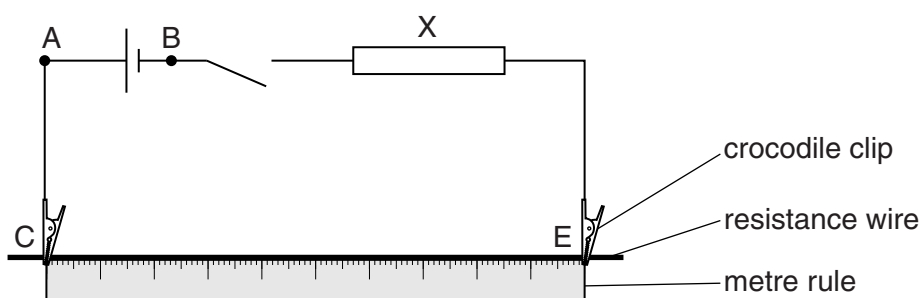

Fig. 4.1
Four connecting leads to enable the Supervisor to set up the circuit shown in Fig. 4.1. The points A, B, C and E should be labelled.
7. At the changeover, the Supervisor should check that the circuit is set up as in Fig. 4.1 with the switch open. The voltmeter should be disconnected from the circuit and the two connecting leads and sliding contact should be placed on the bench. If cells are used, they should be checked, and replaced if necessary.